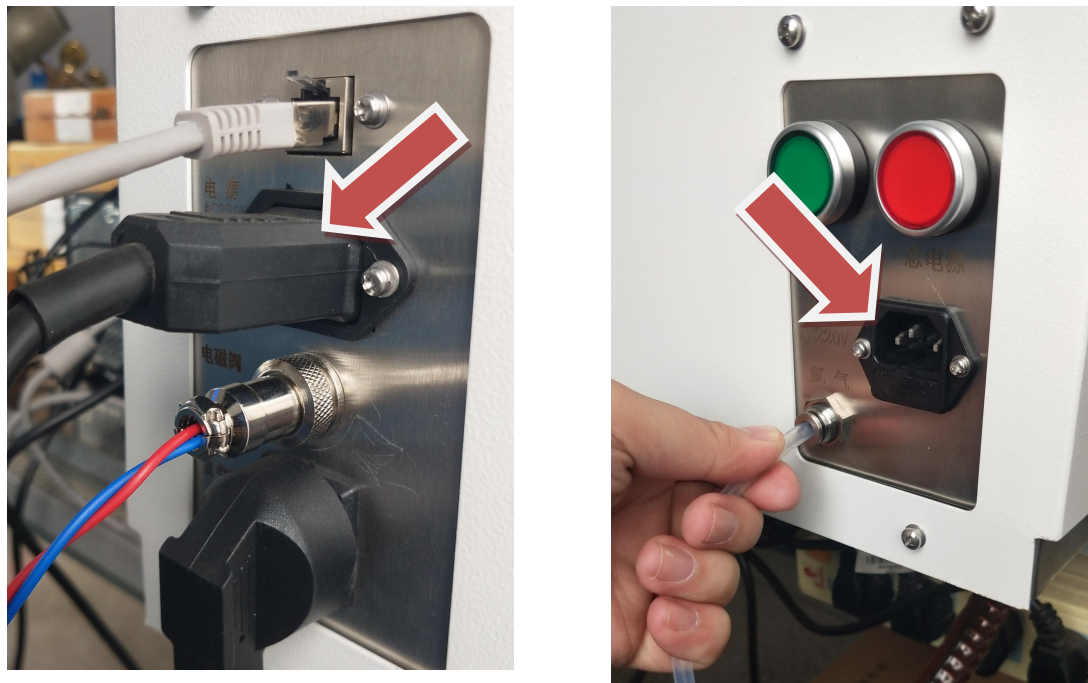

Figure 3-24 Vacuum pump and power cord
Step 3 Connect the power cable of the vacuum pump and the power cable of the main unit to the power supply, as shown in Figure 3-24: